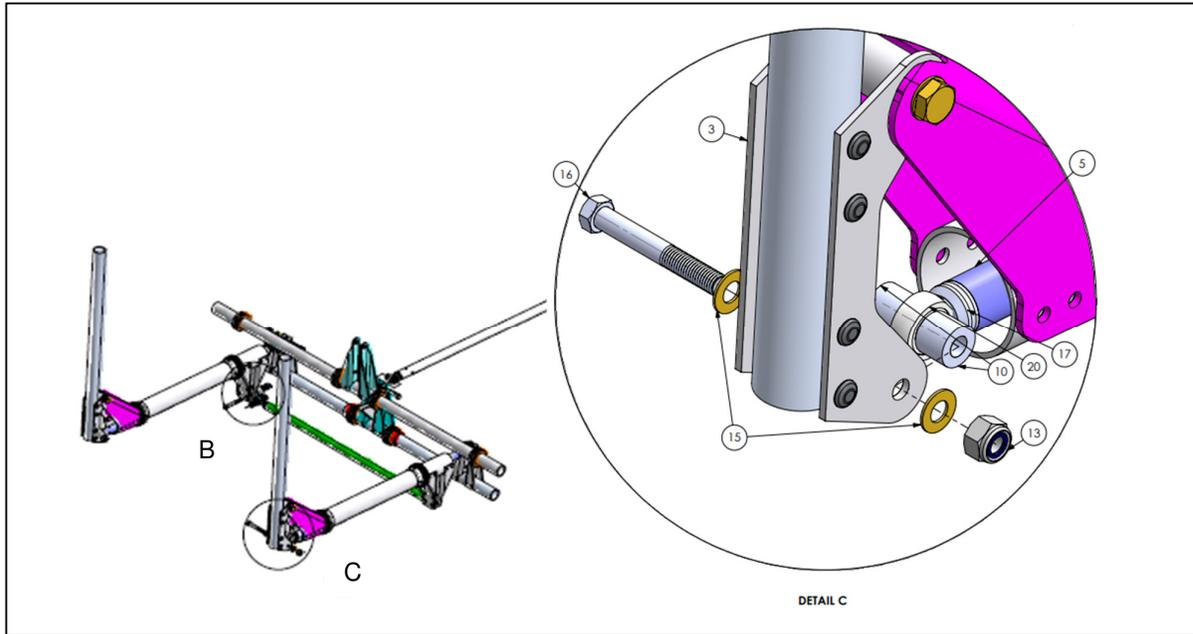

Figure 12: Eyebolt assembly, Detail C
- Step 4. To replace the eyebolts seen in Detail C of Figure 12, remove the AN4 locknut (13) and bolt (16). The eyebolt should then be uninstalled from the pushrod (5). A *type 1* or *type 2* eyebolt should then be installed on the pushrod.
- Step 5. Reassemble the eyebolt assembly by reversing the procedure in Step 4, refer to Figure 12 for component placement.
| Sling 4 TSi | DC-MAM-001-X-F | 4.1.2.2            | Figure 12         |